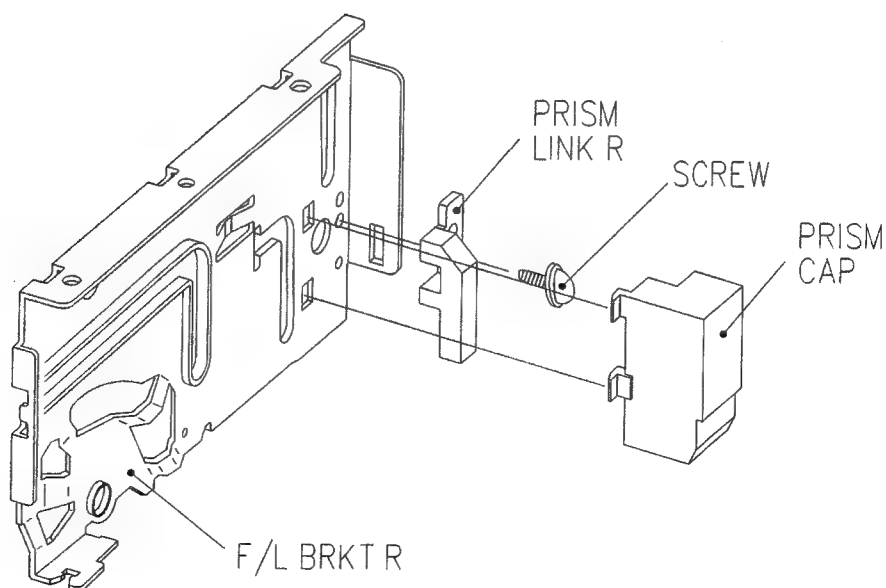

Fig.3-3 DISASSEMBLY OF THE F/L BRKT R
- c. Remove the PRISM CAP and remove one screw holding the PRISM LINK R and remove the PRISM LINK R from the F/L BRACKET R. (Fig. 3-3)